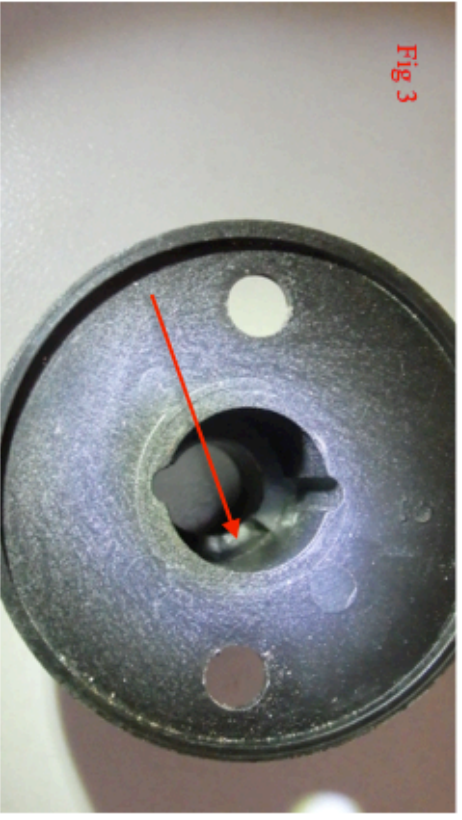

Fig 3
(3) Fig 3 shows that the locking peg for the key, marked by an arrow, has noticeably worn the groove that the key locks into to keep the switch closed.